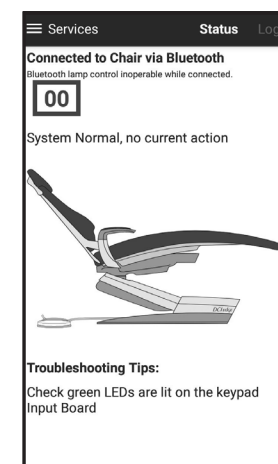

Fig. 3
- 4 View Status:** Once connected, you will be placed into the Status Section of the app (Fig. 3) where you can view the codes that are currently being displayed on the Control Board of the chair along with the definition of the code. A graphical display will also indicate any current actions you are making in real time. Scroll through the troubleshooting section at the bottom of the screen if the current conditions require a corrective action.